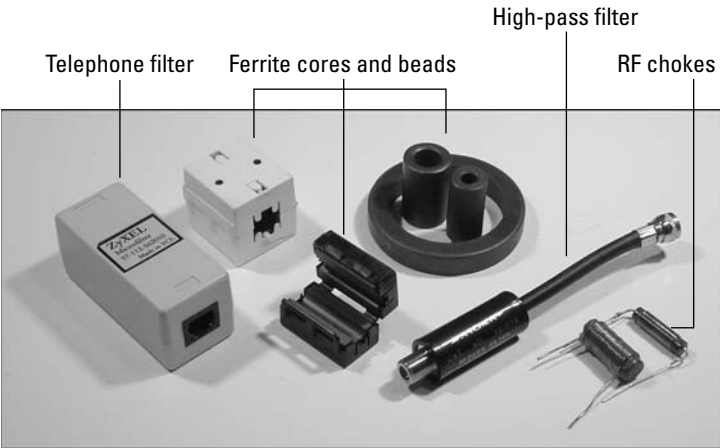

Figure 17-1: All these devices and components can be used to reduce or eliminate radio-frequency interference.
Interference, either to or from your electronics, refers to unwanted signals or the effects caused by other signals. There are two types of interference: the kind you experience from external sources and the kind caused by your devices. We'll start with interference that your stuff receives externally — starting with radios and other RF receivers (some of them inadvertent) that you might have. Figure 17-1 shows several examples of interference-fighting devices and components as follows:
(one is visible at the upper right of Figure 17-1). These are also called *cores*.
- ✓ **Beads are like toroids, but cylindrical.** Two large beads are shown inside the toroid in Figure 17-1. They are slipped on to cables and wires and several may be combined.
If your television is receiving interference on many channels from a single strong nearby signal, it's likely that the television receiver is overloading. Luckily, there is a simple fix if the interfering signal is of a frequency *below* that of television signals. The lowest-frequency TV signal is found at channel 2, between 54 and 60 MHz. A high-pass filter reduces (*attenuates*) lower-frequency signals. A typical TV-type high-pass filter is shown in Figure 17-1. (The MFJ Enterprises MFJ-711B is a good choice, www.mfjenterprises.com/products.php?prodid=MFJ-711B). These are easy to install as shown in this task.